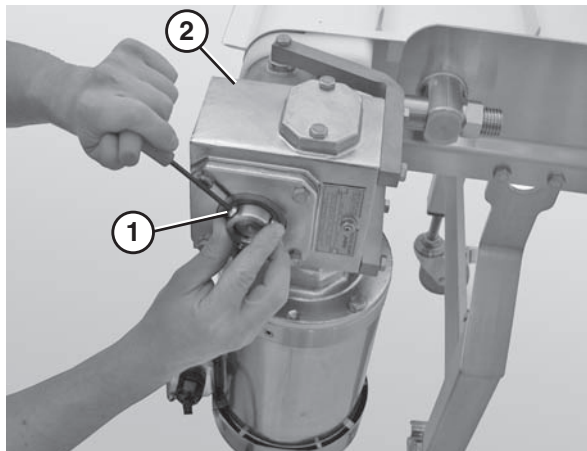

Figure 18
5. Use a 4 mm hex wrench to tighten the outside button head screws (Figure 18, item 1) and the inside button head screws (Figure 18, item 2) that connect the gearmotor to the drive spindle.